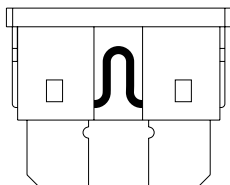

FIGURE 9. WORKING FUSE
If a fuse must be replaced (see figures 9 and 10), use only the specified amp fuse. For more information on replacing a fuse, see XI. "Care and Maintenance."
- Examine the 5-amp charger fuse. If the fuse is blown, the batteries will not charge. See figures 9 and 10.